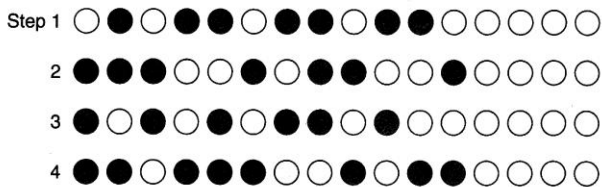

Figure 12-16 Sequencer output file for question 24.
24. Complete the information for the mask word and sequencer file in Figure 12-16 so that the sequencer will operate the lamps as shown (dark circle indicates lamp is on).